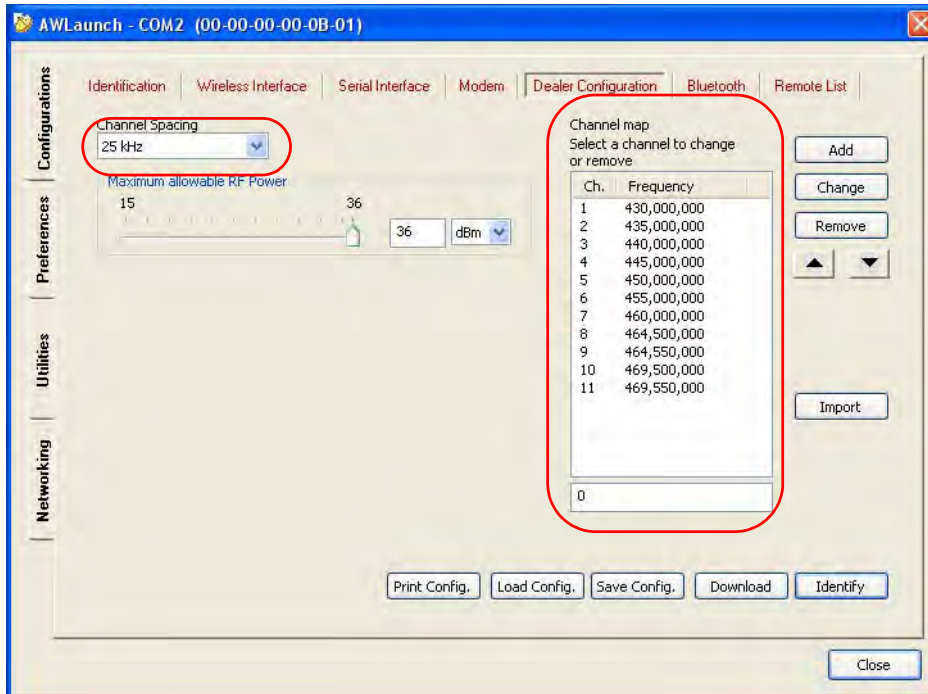

Figure 2-8. Dealer Configuration tab
7. In the *Dealer Configuration* subtab set the frequency and channel spacing (Figure 2-8 on page 22). To save the changes click *Save Config.* button.